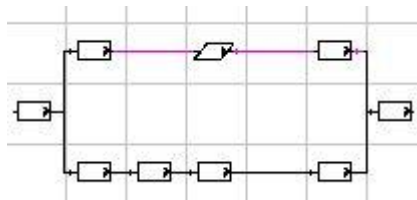
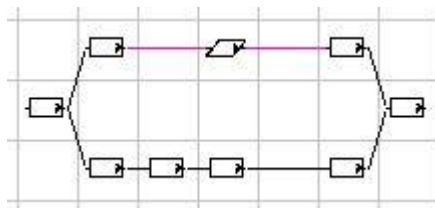
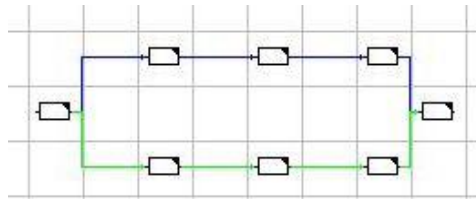

Figure 30: Connecting Line – Horizontal Display
Figure 31: Connecting Line – no Horizontal Display
Figure 32: Connecting Lines - Highlighting Relations
- 1) In order to automatically link processes, activate the field **Create relations automatically** in the **Select viewed relations** dialog. *Please refer to the Figure 30.*
- 3) In order to automatically link processes, activate the field **Create relations automatically** in the **Select viewed relations** dialog. *Please refer to the Figure 30, Figure 31, and Figure 32.*